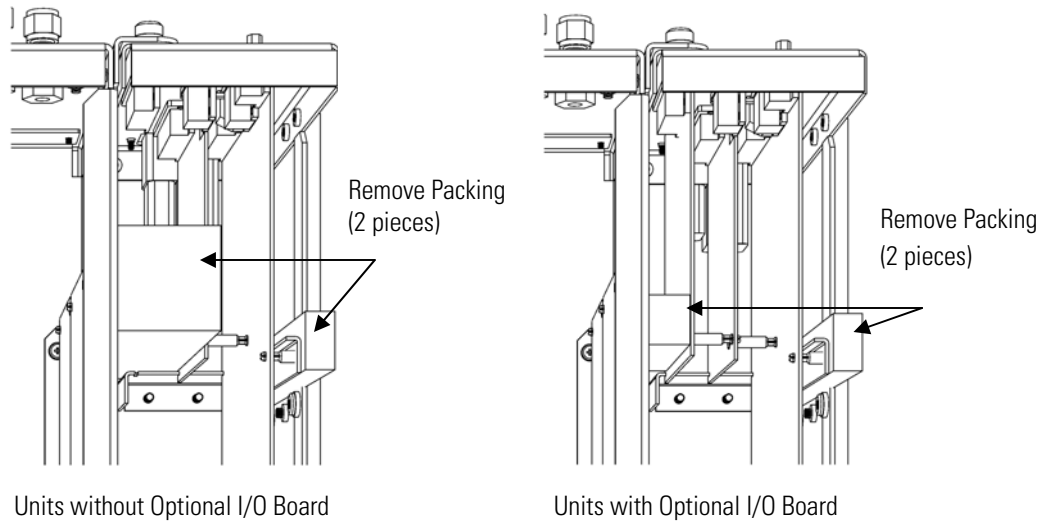

Figure 2-1. Remove the Packing Material
3. Remove the packing material (**Figure 2-1**).